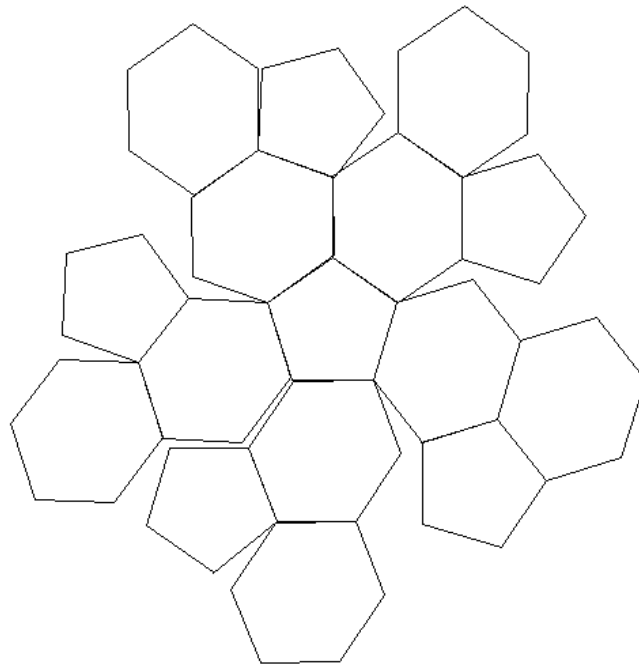

Figure 9.16
1. The net for the truncated icosahedron is really quite simple, beginning with a pentagon surrounded by five hexagons. Each of these five hexagons has another hexagon attached to its outermost side and a pentagon attached to the adjacent side to the right. See **Figure 9.16**.